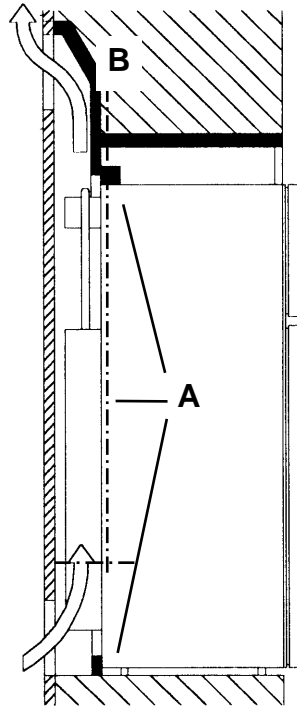

FIG. 1
Insert lipped seals (A) into the installation recesses at the bottom and at each side (FIG 1, 2, 3).
In addition, discharge plate (B) with its lipped seal (A) must seal the refrigerator off from the living area (see FIG. 1,4).
The unit is ventilated through openings in the wall or roof of the vehicle. (Fig. 1 and Fig. 2). Fresh air enters at the bottom and the warmed air flows off through the upper ventilation grille (flue effect). The side walls of the ventilation shaft should be local to avoid the build up of condensation and drafts. The parts of the shaft walls, which are situated above and next to the exhaust for the combustion gases, must be made of highly inflammable material. The **upper** ventilation grille should be positioned as high as possible above condenser (**A**) (**observe minimum ventilation heights**). The **lower** ventilation grille should be **flush with the floor of the vehicle**, allowing any gas leakages (heavier than air) to escape directly into the open air. Should this arrangement prove impossible, a ventilation aperture must be introduced by the manufacturer of the vehicle into the recess floor intended for the unit's installation, in order to avoid the accumulation, on this floor, of any non-combusted gas which might escape (according to EN 1949). It is desirable to fit the hole with wire mesh or similar, and an angle plate to protect it from stones, mud etc., the wire mesh must not reduce the effective area of 13cm² (EN1949). **The ventilation grilles must have a free cross section of at least 400cm².** Here it should be noted that protective insect nets behind the ventilation grilles can reduce the free cross section by up to 50%.